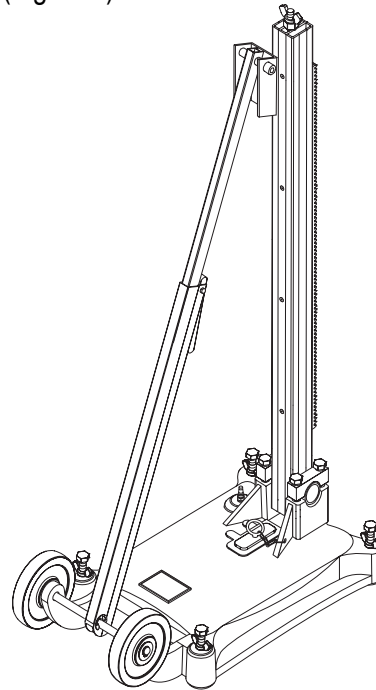

Figure 5. Drill Rig (upright Position)
3. Place the drilling rig in an upright position on a firm flat surface (Figure 5).